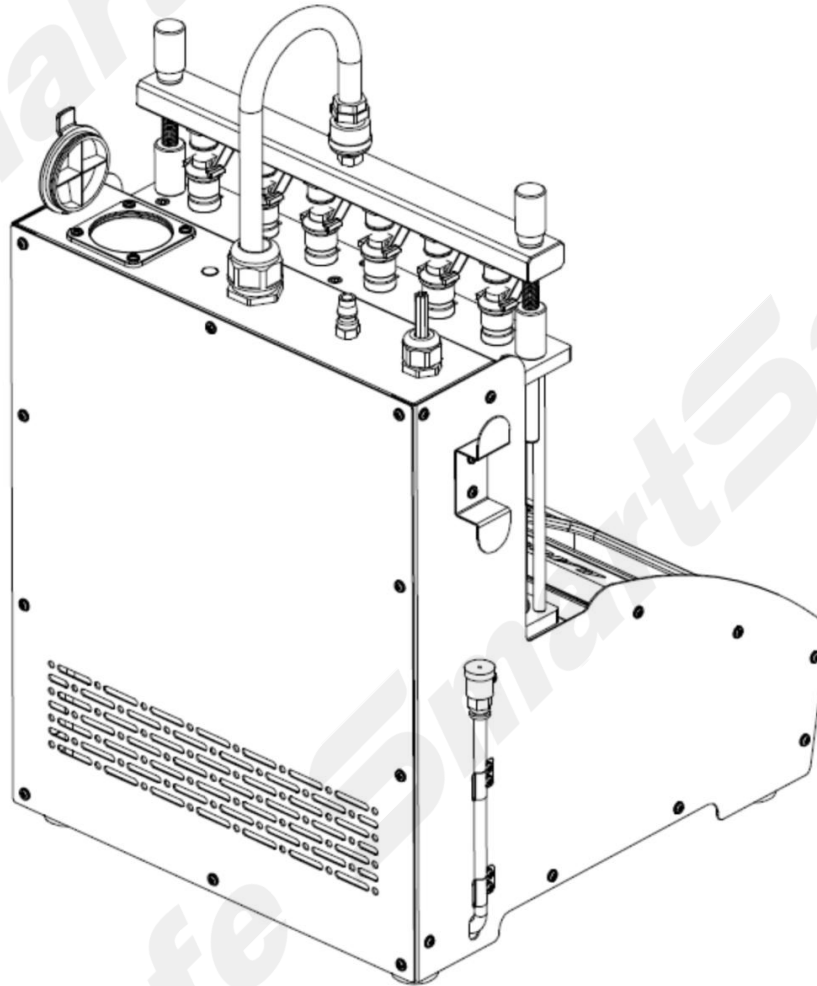

Figure 4.1
- 2) Check and add test solution. Open the lid of fuel filling port and fill 2000ml of test solution into the fuel filling port (pay attention to the control of the filling speed to prevent the test solution from overflowing from the fuel filling port), as shown in Figure 4.1.
- ① **Attention: The main unit of the device uses test solution for uniformity / sprayability test, leakage test, injecting flow test and auto. test. The ultrasonic cleaner uses the cleaning agent. Test solution and cleaning agent are not included in the standard configuration and can be purchased separately.**